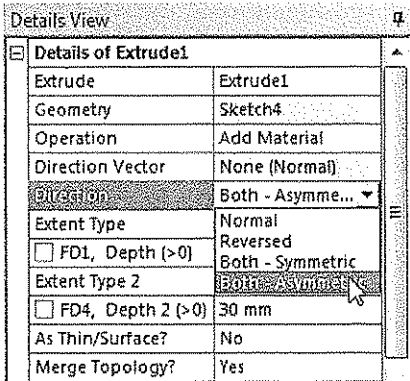

Figure 5-49 Selecting the **Both-Asymmetric** option from the **Direction** drop-down list
- 28. Next, from the **Direction** drop-down list, select the **Both-Asymmetric** option, as shown in Figure 5-49; the **Extent Type2** drop-down list and the **FD4, Depth 2 (>0)** edit box are added to the **Details View** window.